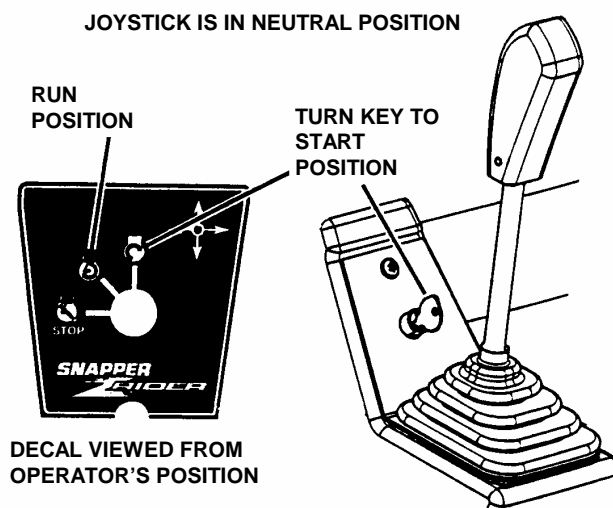

FIGURE 2.5
1. Move joystick lever to (N) Neutral position. See Figure 2.5.
3. Make certain the parking brake is engaged. See Figure 2.5.
7. Turn key to the "START" position until engine starts. See Figure 2.5. **NOTE:** If after 5 seconds of cranking the engine and it does not start, release the key. Attempt starting again after waiting for approximately 20 seconds.